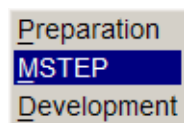

Figure 2.19: BSE menu
1. Select **BSE**→ **MSTEP** (shown in Figure 2.19) to enter the MSTEP GUI.